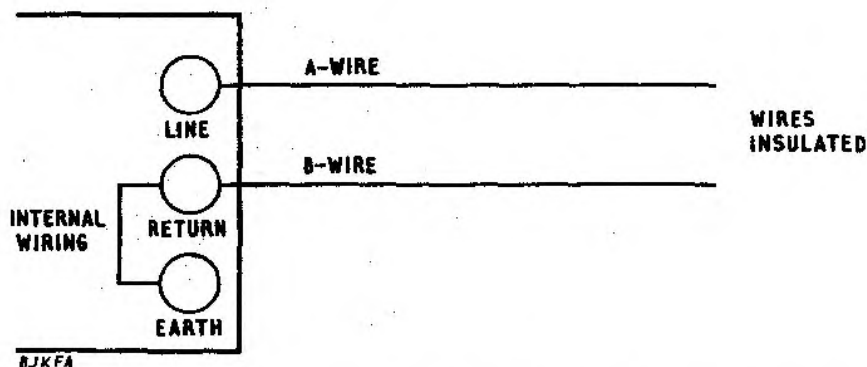

FIG 1 - INSULATION RESISTANCE BETWEEN A AND B WIRES
4.1 **Wire-to-Wire Insulation Test** (see Fig 1) Connect the A and B wires to the LINE and RETURN terminals. Switch on, and read the INSULATION RESISTANCE after the line has had time to charge, ie the meter pointer is steady.